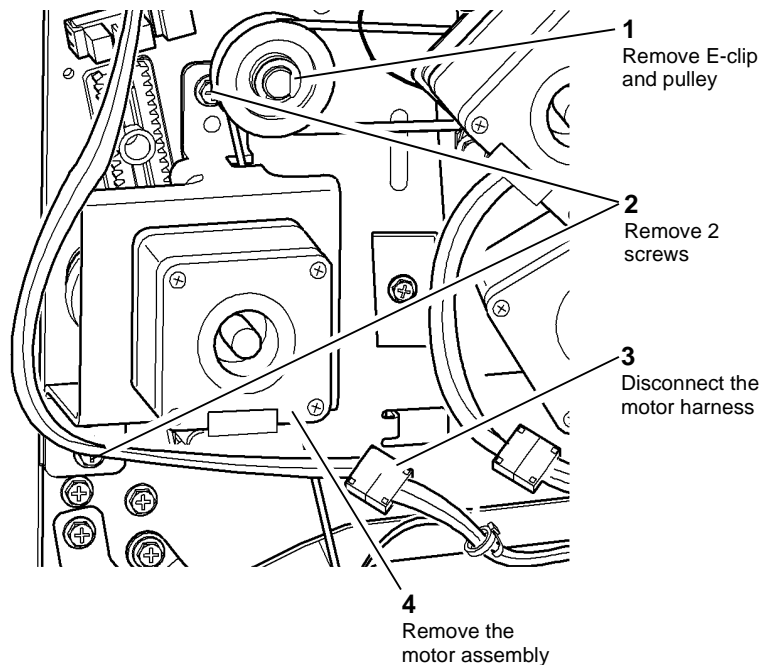

Figure 1 Motor assembly removal
3. Figure 1, remove the motor assembly